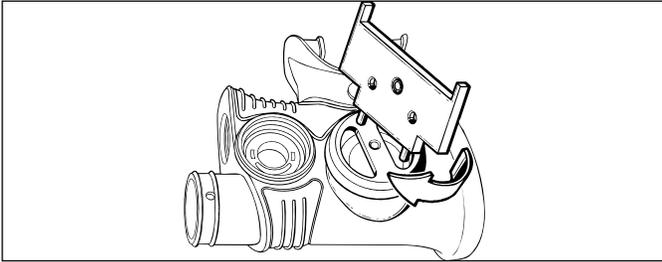

Figure 15
1.3.13 Mate the exhaust cap(41) into the exhaust port of the body, and turn clockwise by hand to engage the threads. Mate the pins of the Air Source Multi-Tool (P/N 42315) into the oral valve exhaust cap(41). While holding the tool securely engaged, turn the cap clockwise until it is snug and flush against the body (see Fig. 15). Do not overtighten.